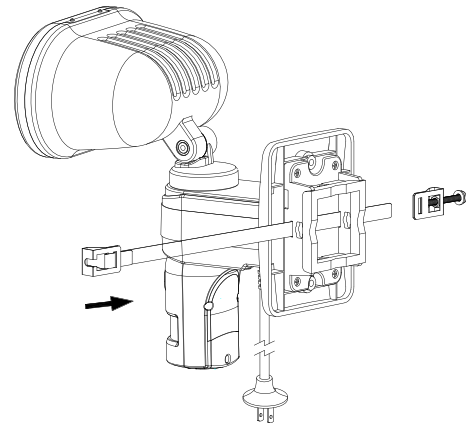

FIGURE 45
(2) Insert the pole band through the two holes on the clamp. (FIGURE 45)